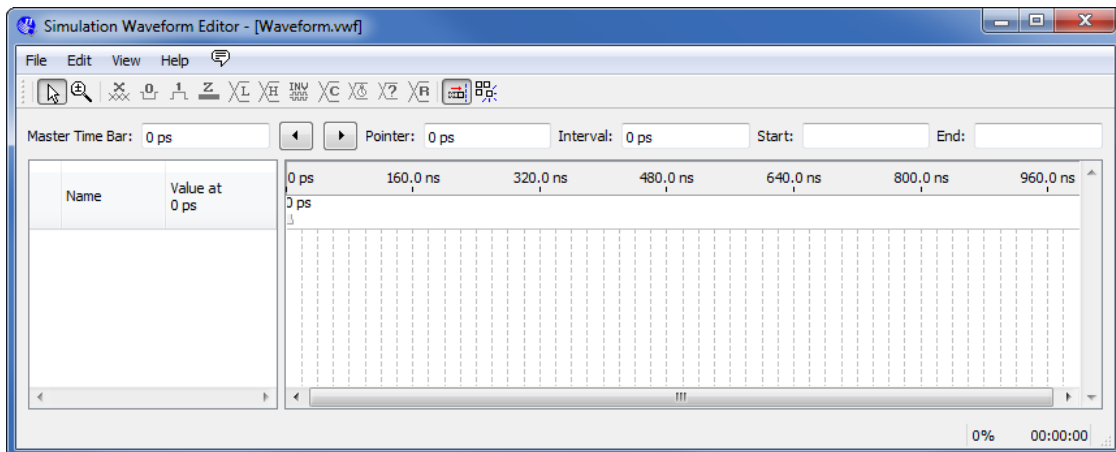
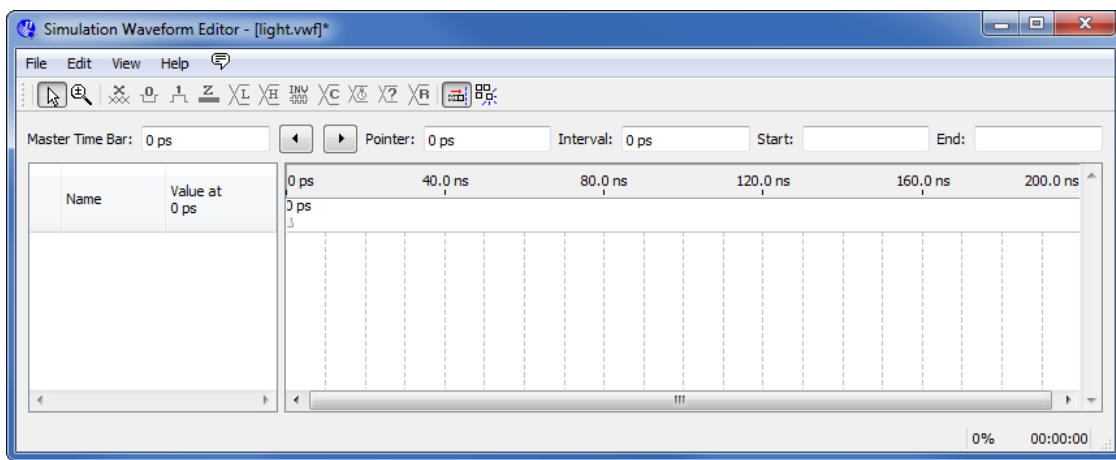

Figure 31. The Waveform Editor window.
Figure 32. The augmented Waveform Editor window.
5. The Waveform Editor window is depicted in Figure 31. Save the file under the name *light.vwf*; note that this changes the name in the displayed window. Set the desired simulation to run from 0 to 200 ns by selecting Edit > Set End Time and entering 200 ns in the dialog box that pops up. Selecting View > Fit in Window displays the entire simulation range of 0 to 200 ns in the window, as shown in Figure 32. You may wish to resize the window to its maximum size.